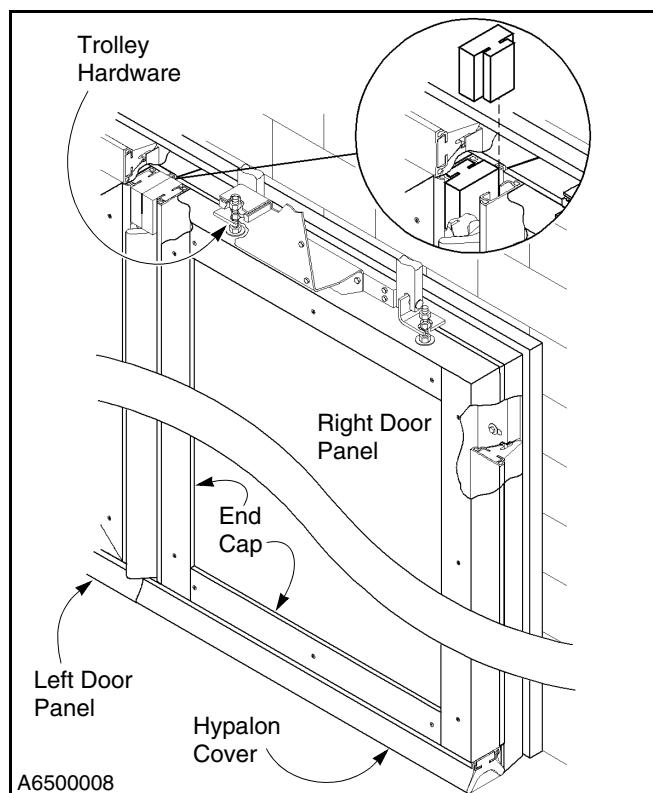

Figure 25
Replace any missing, worn, or damaged hardware, components, or seals. (See Figure 25.)
7. Make sure a short foam block is installed near the top edge of each panel. Replace either block if missing, torn, or damaged. (See detail in Figure 25.)